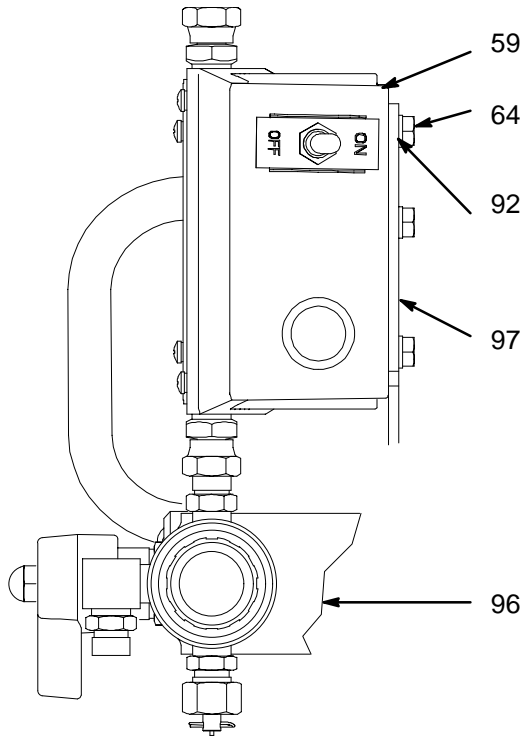

Fig. 25
11. Reassemble in the reverse order; attach ground wire (C), power lead (B), and the black and white connectors. Attach the engine control board (301) using the four mounting screws and washers (302, 303, 304).
12. Use two wrenches and tighten the filter and hose fittings (A). See preceding caution.
13. Slide bracket (96) to contact cart squarely. Tighten both filter mounting screws (30). Install and tighten screw (100).
14. If replacing the complete pressure control, follow steps 1 through 3 on page 30 and remove three mounting screws (64) and lock washers (92). Remove pressure control (59). See Fig. 25.
15. Reassemble screws (64) and lock washers (92), then follow steps 12 and 13 on page 30.